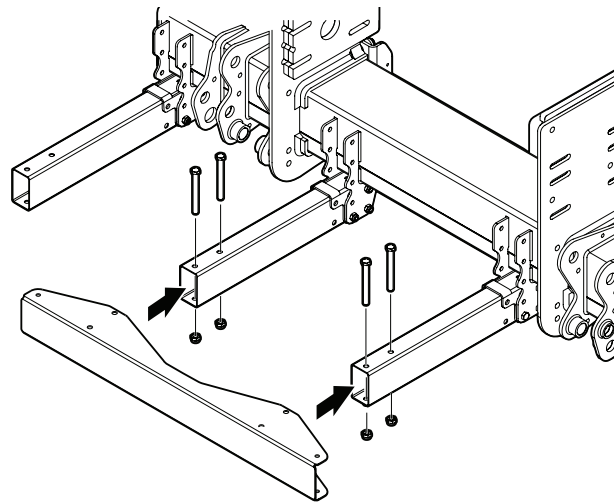

Figure 43. Installing the inner sheet-metal profile
2. Install the centre sheet-metal profile using 4 x M12x110 bolts on the brackets. See Figure 43.